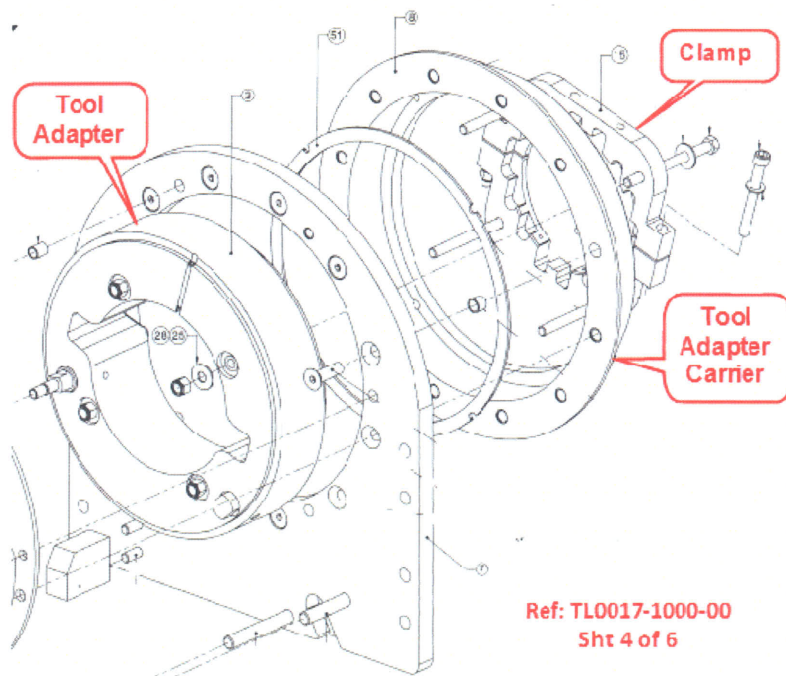

Fig. 5
- Fasten the clamps to the tool adapter per drawing TL0017-1000-00. See also Figure 5.